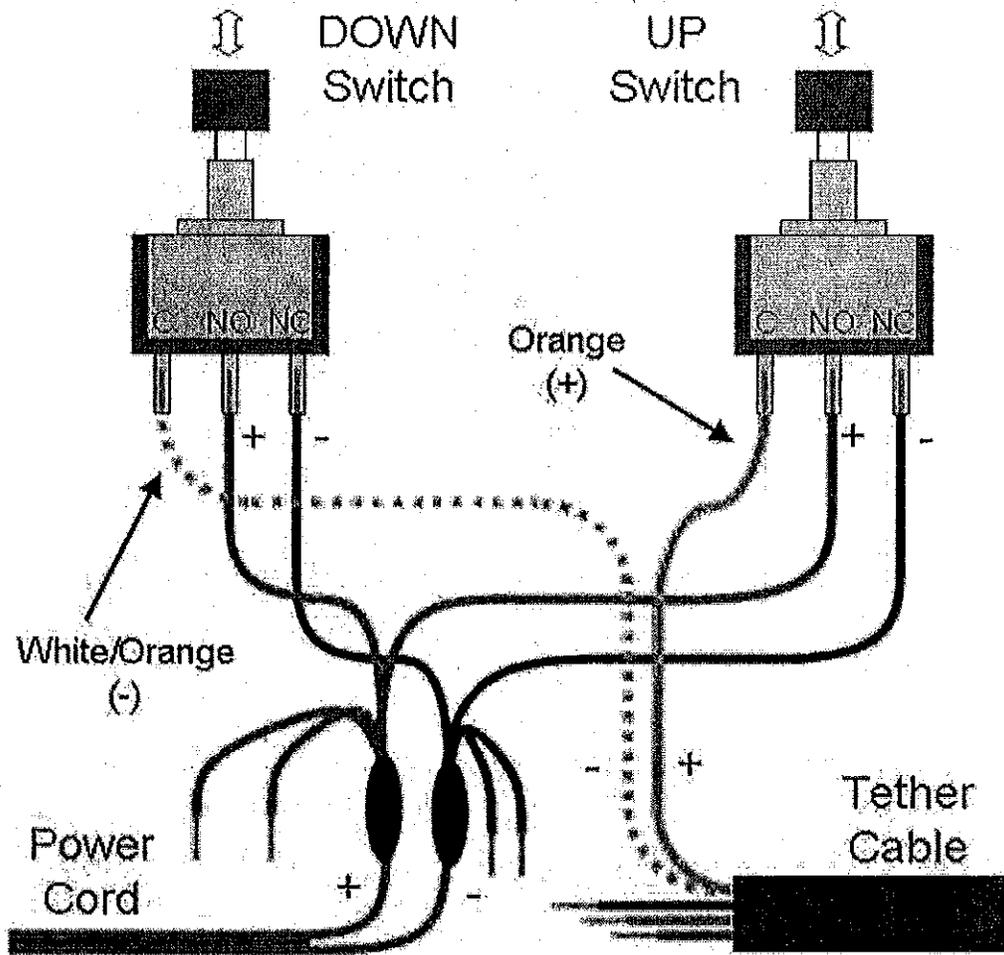

Figure 40: Vertical thruster control / pushbutton switch wiring diagram.
7. Twist the two black (-) power wires to the NC terminals on the two pushbutton switches. **(ONE black wire to each switch—See Fig 40 on next page)**